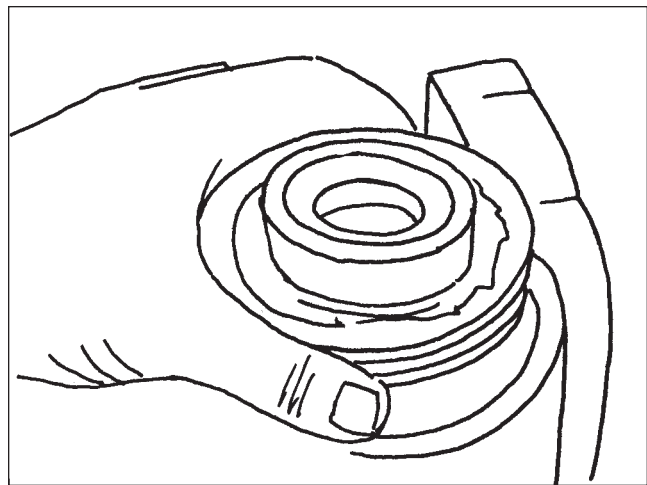

Figure 139
17. Install a new sector shaft seal in the sector shaft cover (**Figure 139**).